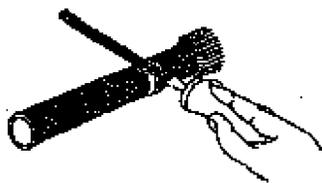
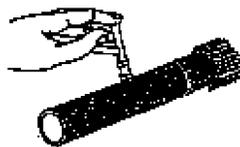

Fig. 3a
Fig. 3b
- k) For cables with an Extruded Semi-Conducting Layer remove the semi-conducting layer as sections 1l to 1p using a special fixed depth scoring tool see Fig.3b, alternatively with a round file, abrade an annular groove through the semi-conducting layer adjacent to the PVC binder ensuring the groove cuts through to expose the white under lying insulation see Fig.3a